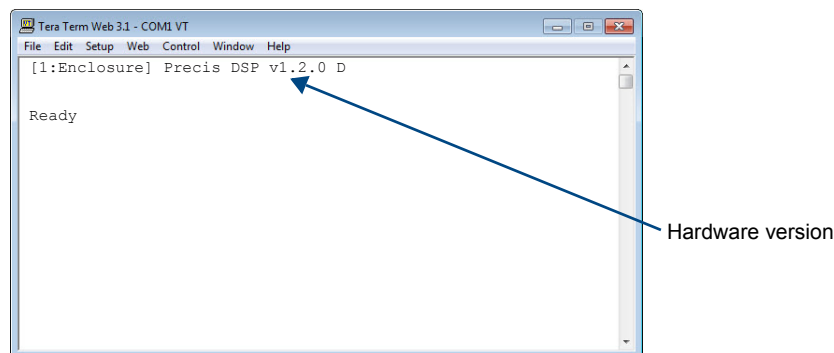

FIG. 8 Power-up splash screen
A short splash screen appears followed by “Ready” (see FIG. 8 below).
When power is applied to the enclosure, the terminal emulator displays a short splash screen followed by “Ready”. An example of a short splash screen is illustrated in FIG. 8 (your system’s splash screen may differ slightly).
- At system boot, the `~scrV0i1!` setting is displayed (see FIG. 8 on page 29).